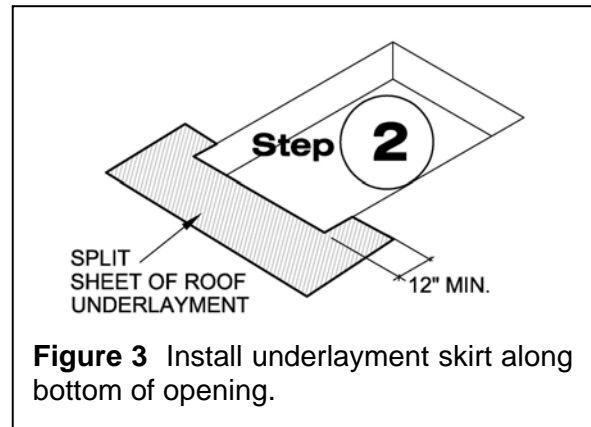

Figure 3 Install underlayment skirt along bottom of opening.
Step 2. Install a skirt of roof underlayment along the sill of the skylight opening. The remaining underlayment will be integrated with this skirt in Step 4 (see Figure 3).